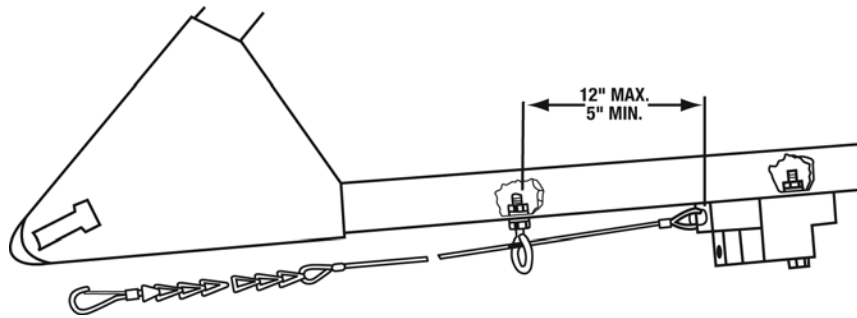

Figure 3 - Trailer Tongue Eyebolt Mounting
4. Refer to Figure 3 for correct location for mounting the second eyebolt.